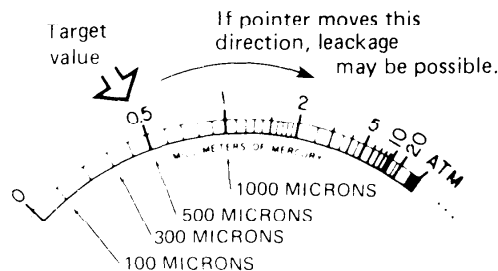

Fig. 22
- 7) Keep this condition at least 5 minutes and observe the vacuum gauge for change. (Fig. 22)